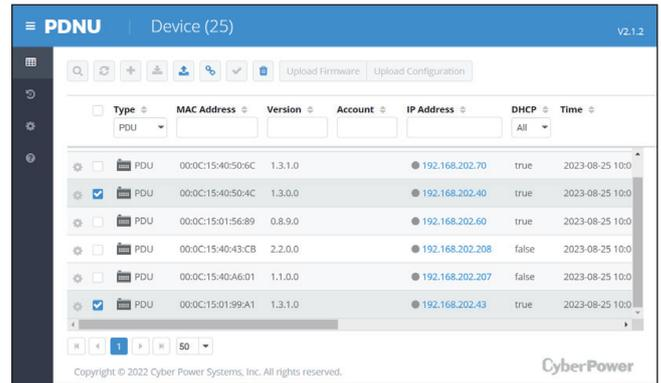

Figure 1
3. The main window of the Power Device Network Utility 2 program is shown in Figure 1. The configuration tool will display all CyberPower Remote Management devices present on the local network subnet. The **Scan** button is used to search the local network subnet again.